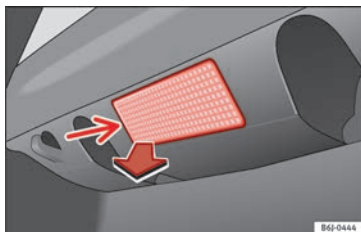

Fig. 194 Boot light.
- Extract the bulb by pressing on its inside edge -arrow- using the flat side of a screwdriver»» Fig. 194.